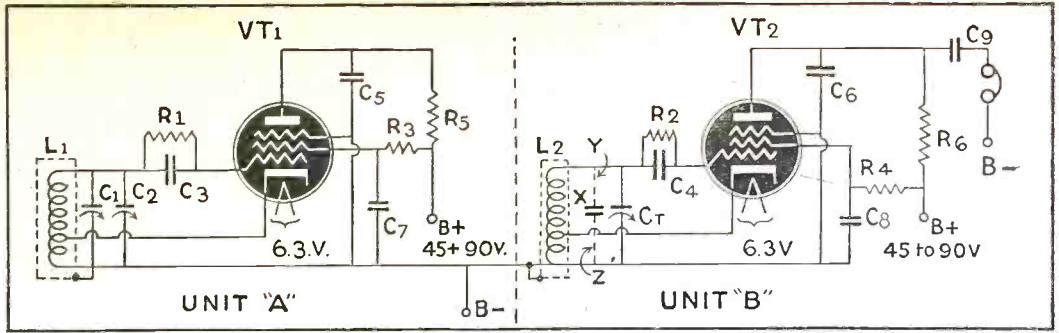

Fig. 2—A better combination, using two electron-coupled oscillators to avoid coupling.
Another incorrect method of checking an instrument, practiced by some service men, is illustrated in Fig. 2. The reading on the instrument to be checked (A), is compared with that on another instrument (B) which has no better accuracy rating than the instrument under test.